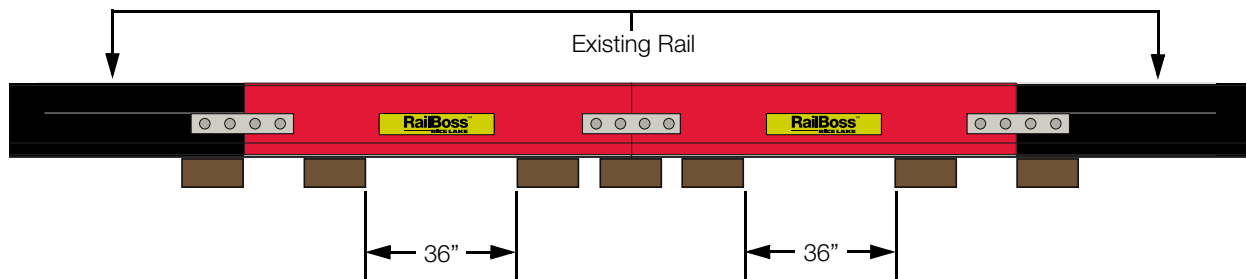

Figure 2-5. Tie Spacing in Relation to Existing Rail and Installed RailBoss
3. Place ties in position, 36" apart, according to the yellow or red marks at the base of the rail. See Figure 2-5.